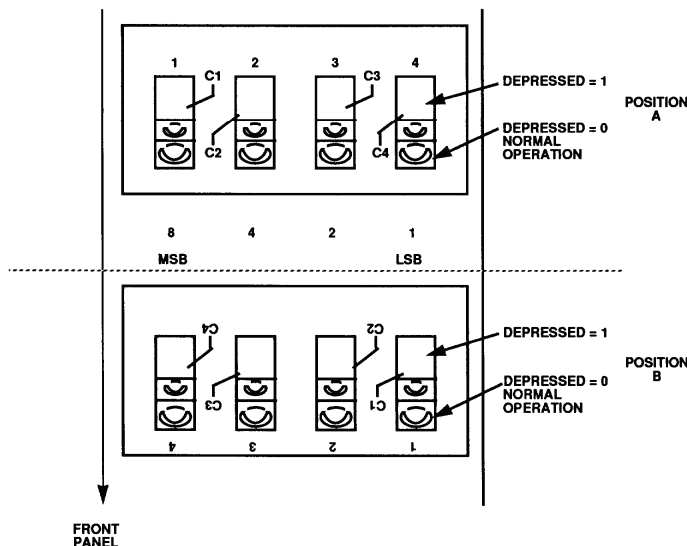

Figure 1. A3S1 service switch.
- (1) Press TI and range calibrator **LINE** switches to **OFF** position.
- (2) Disconnect TI from range calibrator.
- (3) Remove TI top cover.
- (4) Locate service switch A3S1 (fig. 1) (located on A3 board).
Service switch will be either located on TI in POSITION A or POSITION B (fig. 1).
- (5) Note position of all four switches of service switch A3S1 (fig. 1).
(6) Place all four switches of service switch A3S1 (fig. 1) into test position.
Test position will be opposite to switch positions now displayed on A3S1 (fig. 1) service switch.
- (12) Disconnect multimeter from TI.
- (13) Press **LINE** switch to **OFF** position.
- (14) Place all four switches of service switch A3S1 (fig. 1) into **NORMAL** position.
- (15) Replace TI top cover.
- (16) Press **LINE** switch to **ON** position.